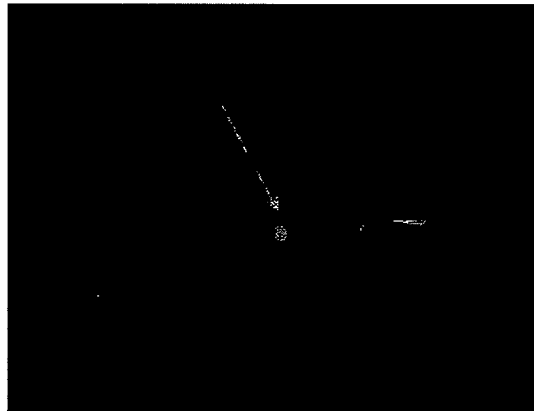

Figure 20
1. The seat can be adjusted to the forward/backward position by using the lever on the lower right side of the seat. Moving the lever will allow the seat to slide into the preferred position. See figure 20.